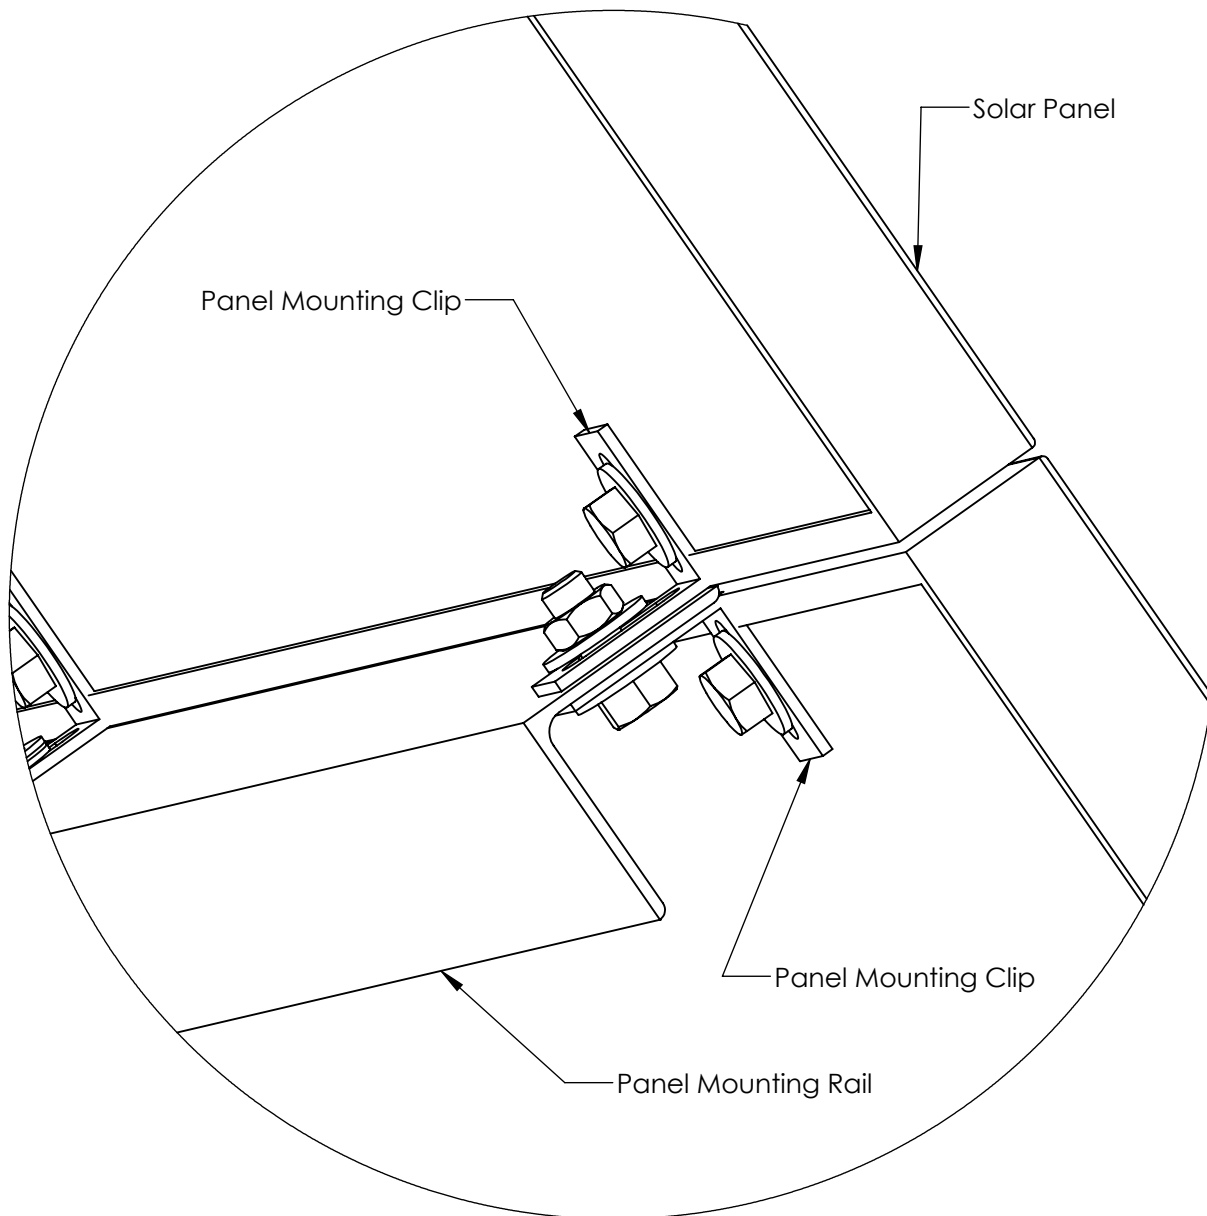

Figure 8
1. Attach the Panel Mounting Clips to the Panel Mounting Rails in the slotted holes provided as shown in Figure 8.